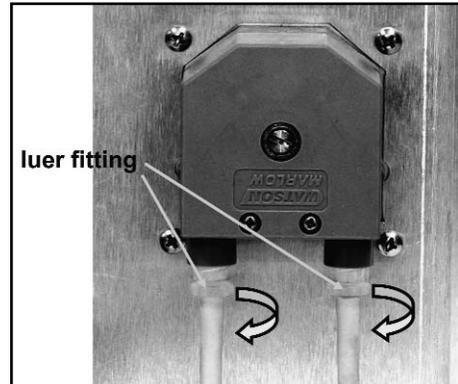

FIGURE 9-6.
3. Luer fittings connect the reagent tubing to the pump. Disconnect the tubing by turning the fitting in the direction of the arrows shown in Figure 9-6.
3. Luer fittings connect the sample tubing to the pump. Disconnect the tubing by turning the fitting in the direction of the arrows shown in Figure 9-6.
2. The reagent and sample tubing is connected to the pump tubing with luer fittings. See Figure 9-6. Disconnect the fittings from the pump by turning the fitting in the direction of the arrow.